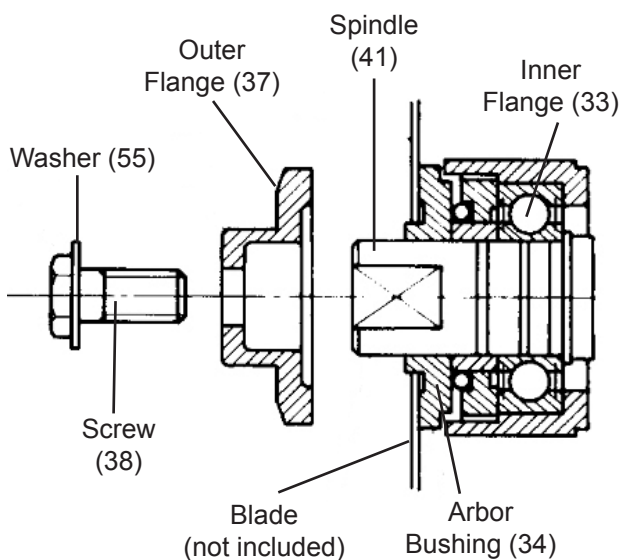

Figure 1
2. Make sure that Arbor Bushing (34) is attached onto Spindle and seats into recess on the face of Inner Flange (33). See Fig. 1.
3. Slide Outer Flange (37), Washer (55) and Screw (38).